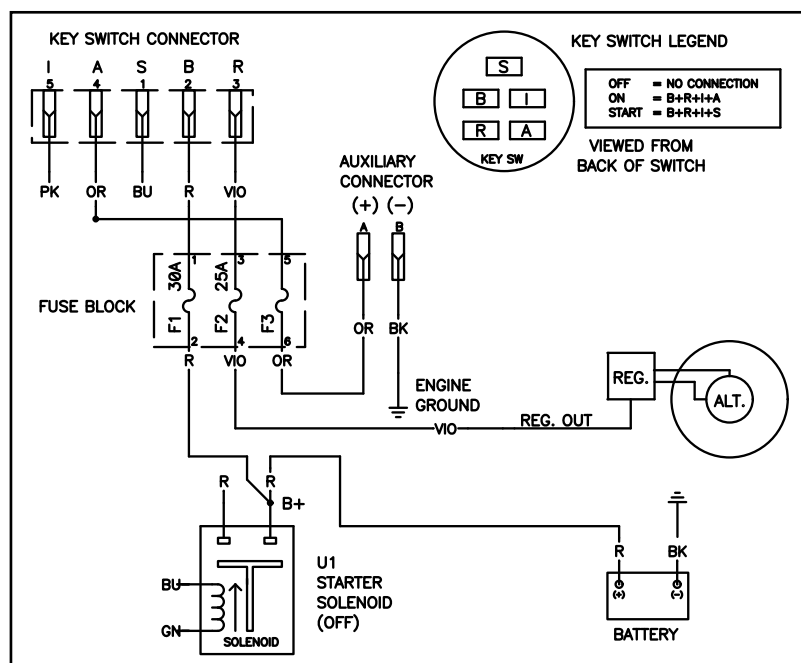

Fig. 160
- The fuses used in this application can also be visually inspected. A failed fuse can be identified by the broken/melted element inside the fuse cover or a damaged spade (Fig. 159 and Fig. 160).